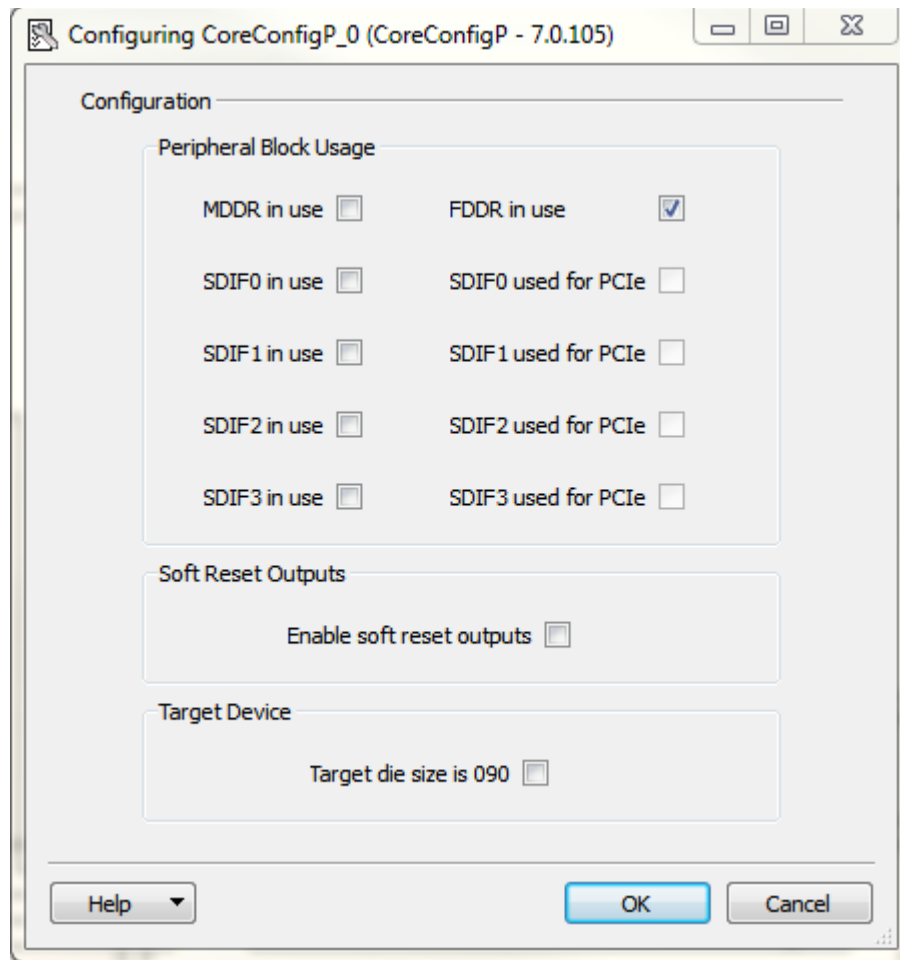

Figure 16 • CoreConfigP Dialog Box
3. Configure the core to specify which peripherals need to be initialized (Figure 16)